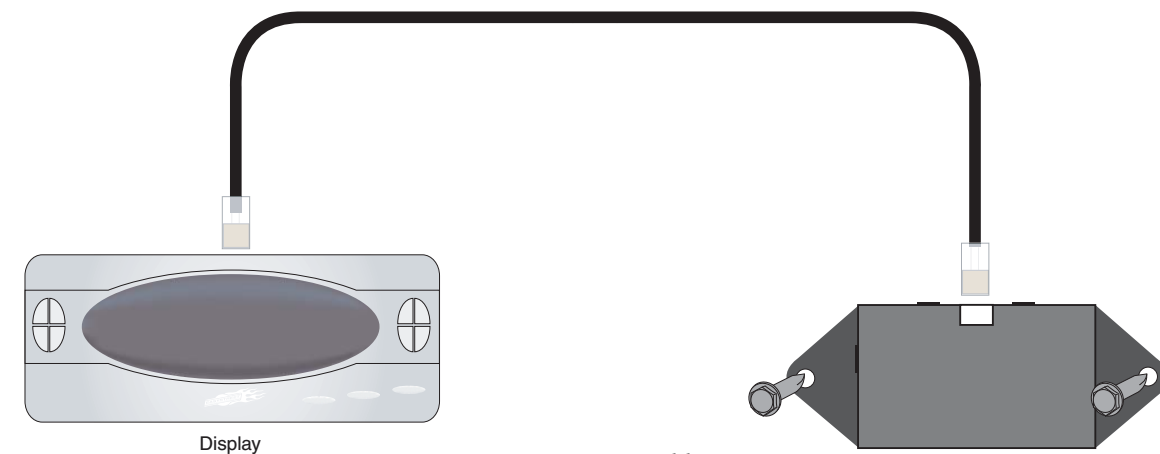

Figure 11
2. Attach the bracket to the chosen mounting location using the provided screws (Figure 11).
5. Connect one end of the CAT 5 cable to the ECU and the other to the display panel (Figure 11).